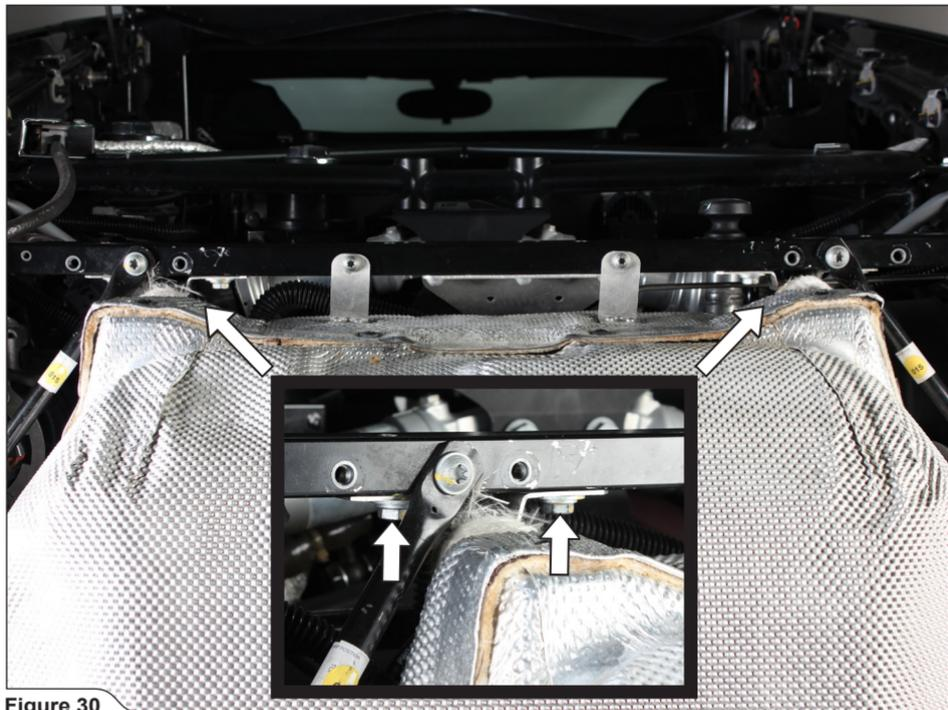

Figure 30
5. Loosen the upper muffler's brackets chassis bolts (**Figure 30**).